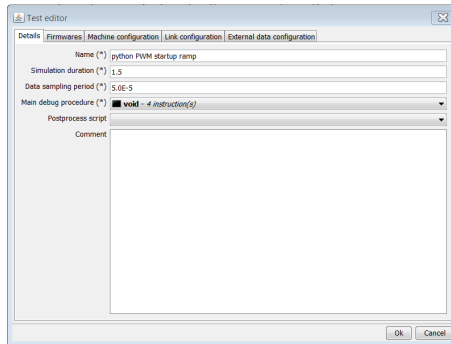

Figure 6.6: Click.
- *Details*, is shown in Figure 6.6;